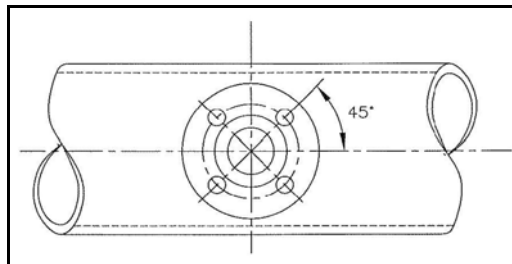

fig. 10
- 2.) Tack the mounting stud with 1-2 mm clearance onto the pipe. The bolting holes in the flange have to form an angle of 45° with the pipe axis (fig. 10).